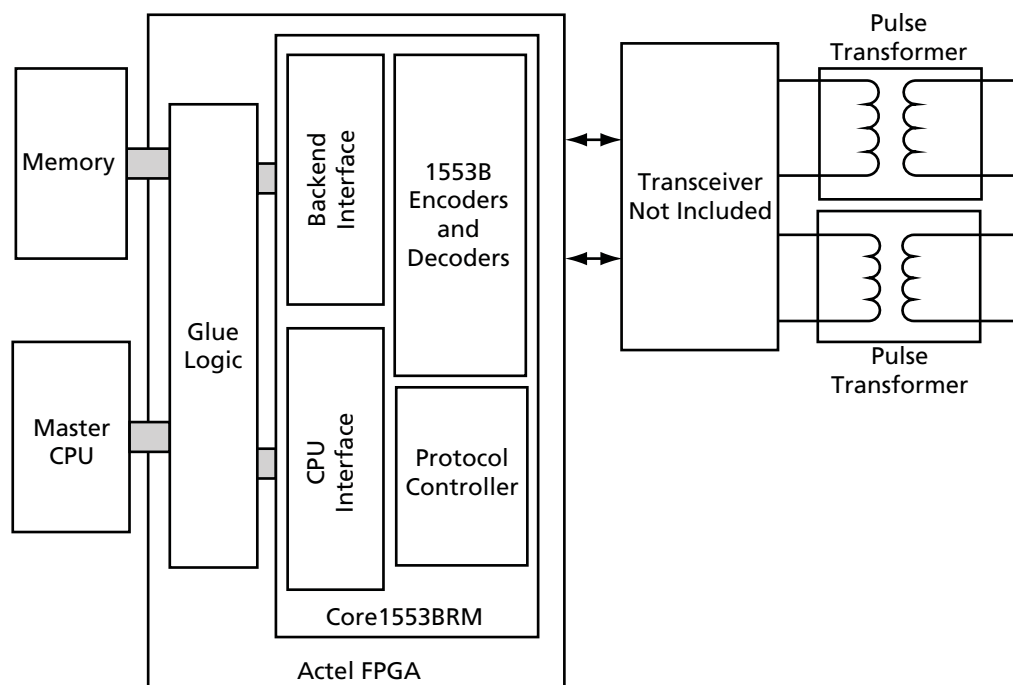

Figure 1-1 • Typical Core1553 Application
Actel Core1553BRM provides a complete MIL-STD-1553B bus controller (BC), remote terminal (RT), or bus monitor terminal (BM or MT). Core1553BRM can be configured to provide all three 1553 functions or any combination thereof. The core is supported in all recent Actel flash, antifuse, and radiation-tolerant product families. A typical system implementation using Core1553BRM is shown in Figure 1-1.